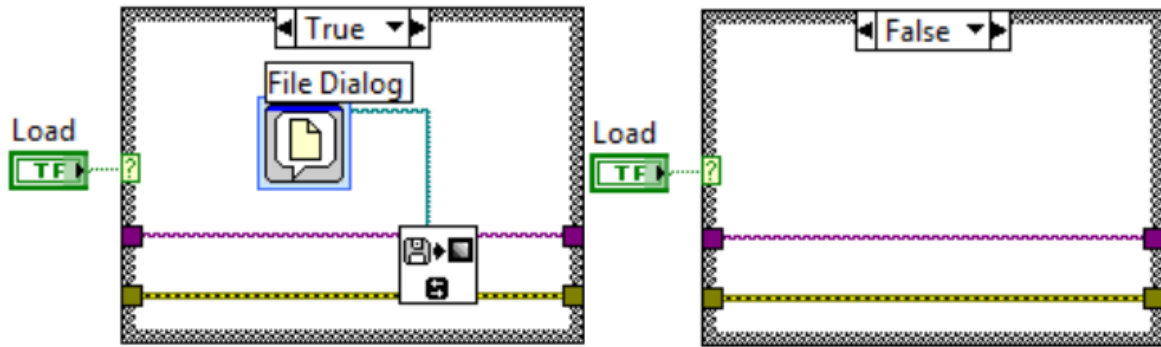

Figure 22: Left: “True” Case Block Diagram. Right: “False” Case Block Diagram
5. Add a **Case Structure** and wire the **Load Image Button** to the **Selector Node**. Build the rest as shown in Figure 22. Refer to previous exercise if you do not remember the location of the palettes.